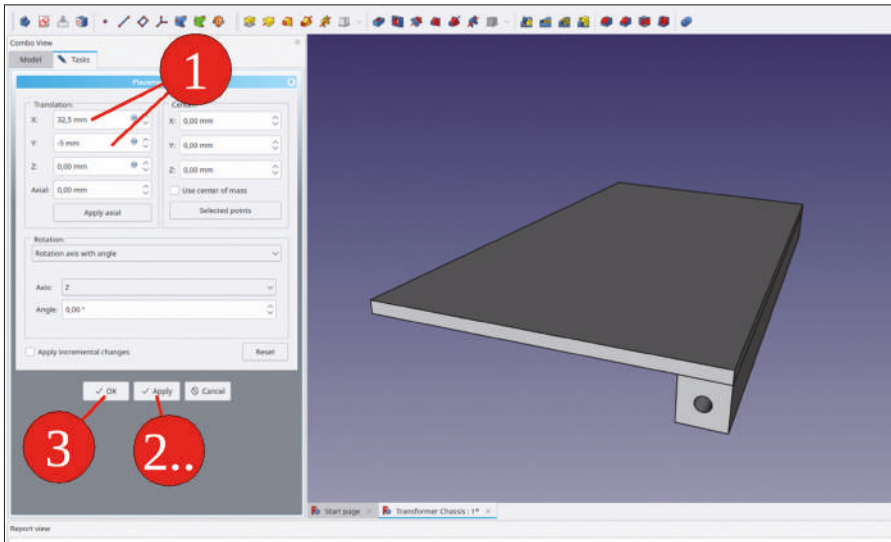

Figure 9-65
36. In the tree view, mark the datum plane 'Spacer Front Face'. In the property list, edit the 'Attachment' parameters. Open the task window with the  button in the edit field. Set the translation to  $X = 32.5$  mm and  $Y = -5$  mm (Figure 9-65). The view will be updated only if the 'Apply' or the 'OK' buttons have been clicked. Close the task window with the 'OK' button.